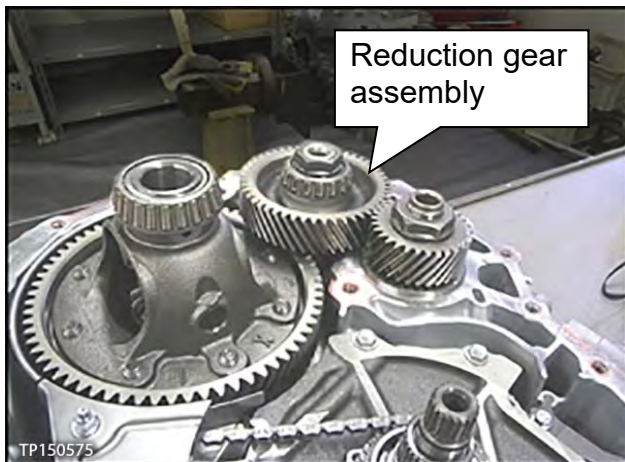

Figure 35
19. Carefully remove the reduction gear assembly (Figure 35).